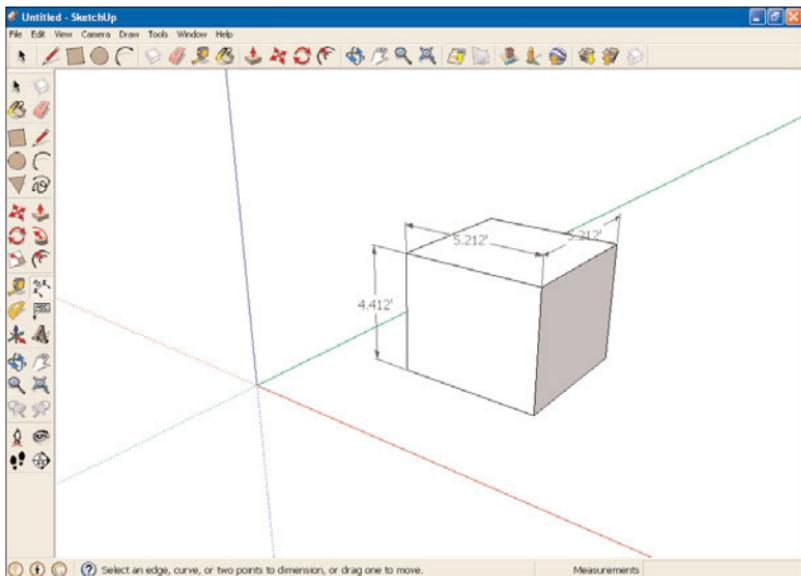

FIGURE 10.3 Dimensions added to a cube.
10. Repeat steps 7 and 8 for additional edges of the cube. You can see the results in Figure 10.3.